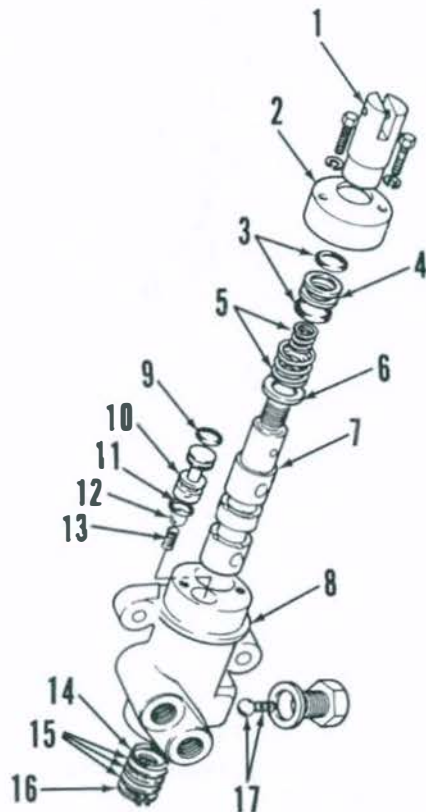

Fig. 19—Exploded view of steering control valve used on Models MF240 and MF250.
**16. OVERHAUL CONTROL VALVE.** To disassemble removed unit, remove snap ring (16—Fig. 19), washers and felt seal (15). Remove end cover mounting screws, then withdraw valve spool (7) assembly with end cover (2) and yoke (1). Unscrew yoke from spool and separate springs and washers from spool. Tap bypass piston (10), ball (12) and spring (13) from valve body. Remove relief valve spring and ball (17). Inspect all parts for wear or damage and renew if necessary. Renew all "O" rings when reassembling. Valve spool and body are available only as a matched set.